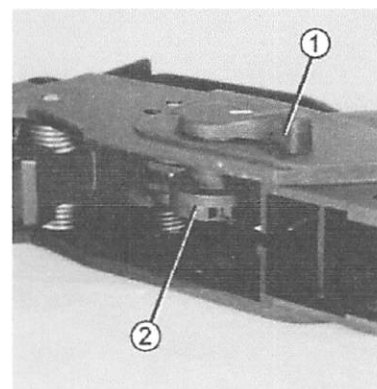

Fig. 60 Replace catch disc
- ⇒ Hold back the safety lever (Fig. 60/1), withdraw the catch disc (Fig. 60/2) inside to the left.